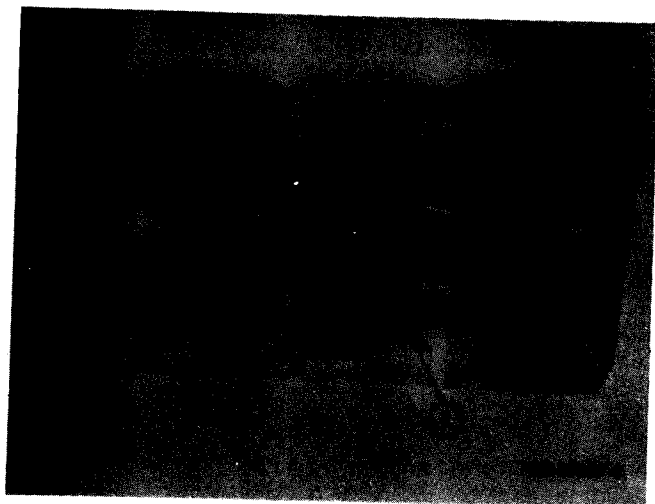

Figure 3-5
Disconnect filters (1, 5, Fig. 3-5) from left hand battery box frame. Disconnect lines (2) to hydraulic pumps at pumps. Disconnect temperature sender (4) wire. Disconnect breather line (3).